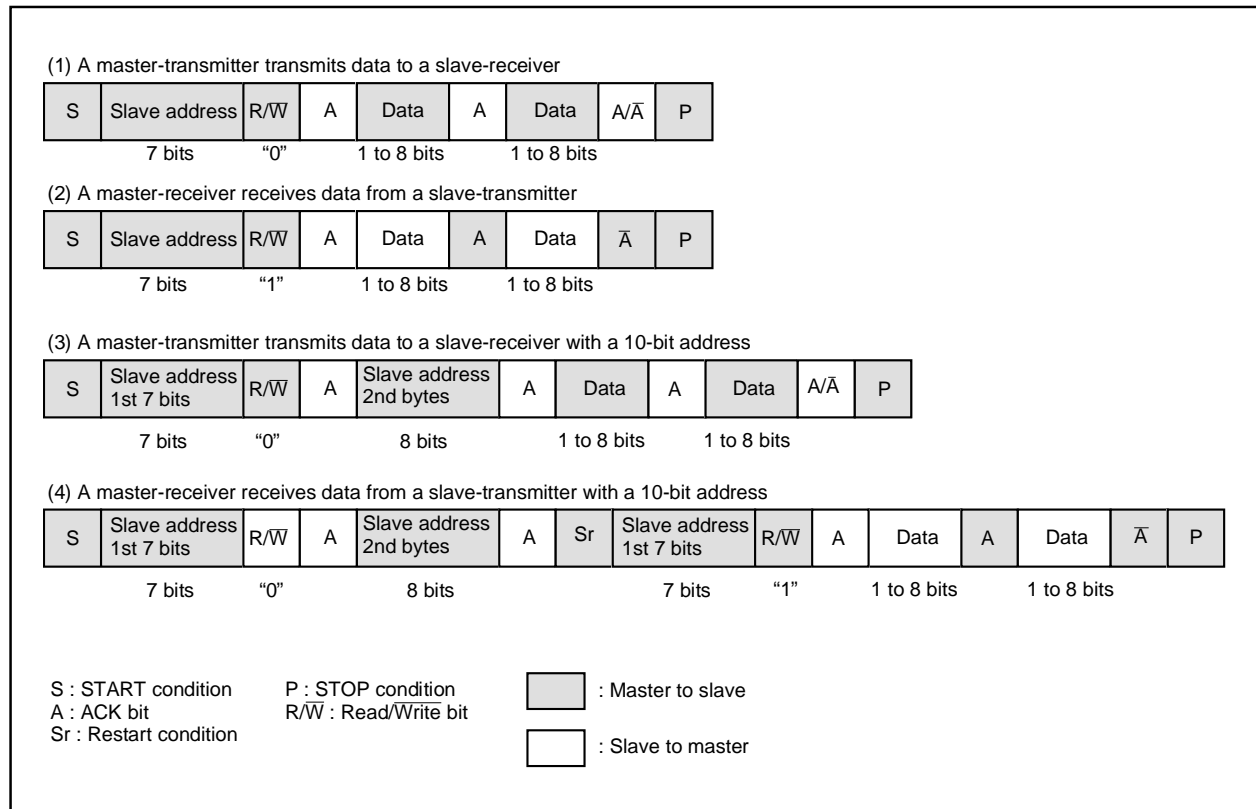

Fig. 77 Address data communication format
parison, an address comparison between the RWB bit of the I2C slave address register and the  $\overline{R/W}$  bit which is the last bit of the address data transmitted from the master is made. In the 10-bit addressing mode, the RWB bit which is the last bit of the address data not only specifies the direction of communication for control data, but also is processed as an address data bit. When the first-byte address data agree with the slave address, the AAS bit of the I2C status register (S1: address 001316) is set to "1." After the second-byte address data is stored into the I2C data shift register (S0: address 001116), perform an address comparison between the second-byte data and the slave address by software. When the address data of the 2 bytes agree with the slave address, set the RWB bit of the I2C slave address register to "1" by software. This processing can make the 7-bit slave address and R/W data agree, which are received after a RESTART condition is detected, with the value of the I2C slave address register. For the data transmission format when the 10-bit addressing format is selected, refer to Figure 77, (3) and (4).